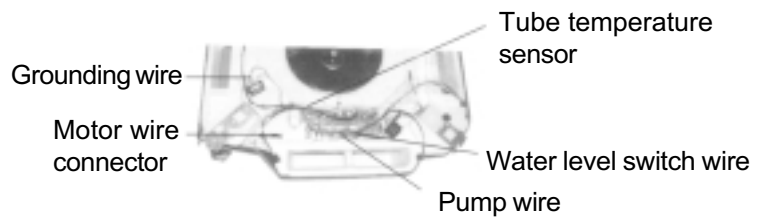

Figure 8
- After remove the control box cover I, loosen the grounding wire, and pull out the motor wiring as shown in figure 8.